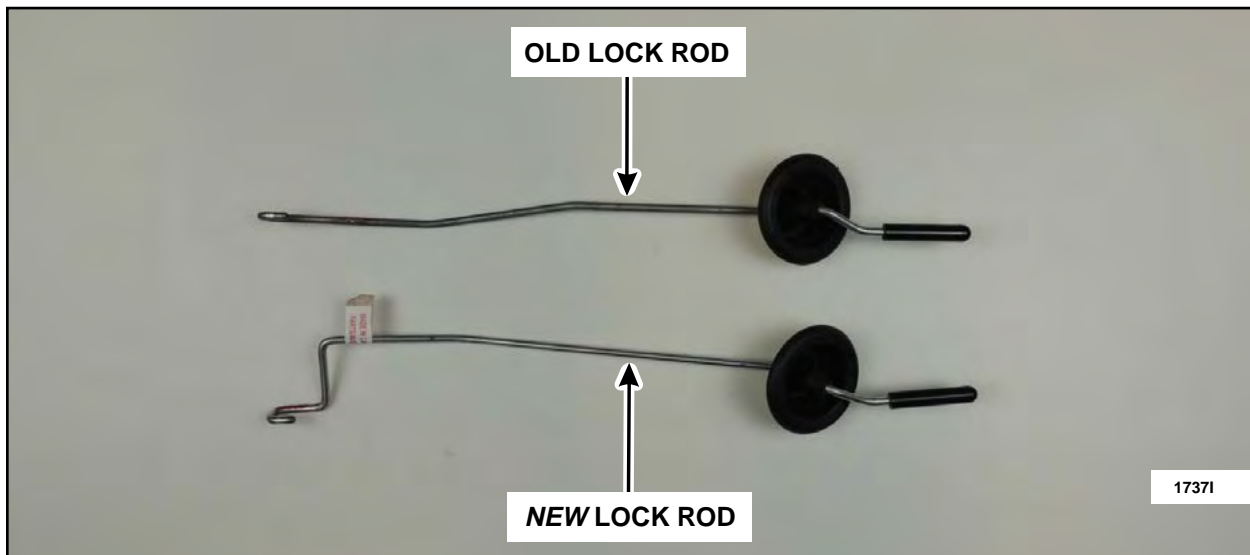

FIGURE 10
15. Refer to Figure 10 to determine if the door latch is equipped with the *new* style lock rod.